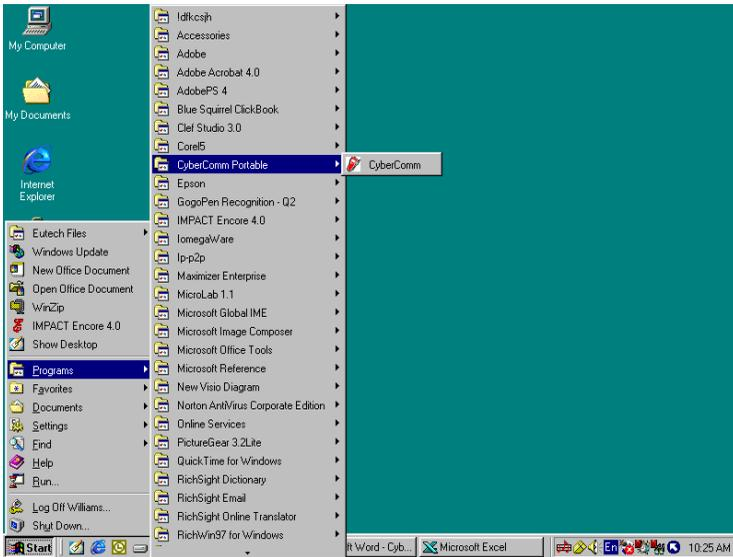

Figure 50 - Run the CyberComm Software program
2. Switch on the pH 100 meter and run the Data Acquisition software as indicated in Figures 50 and 51.